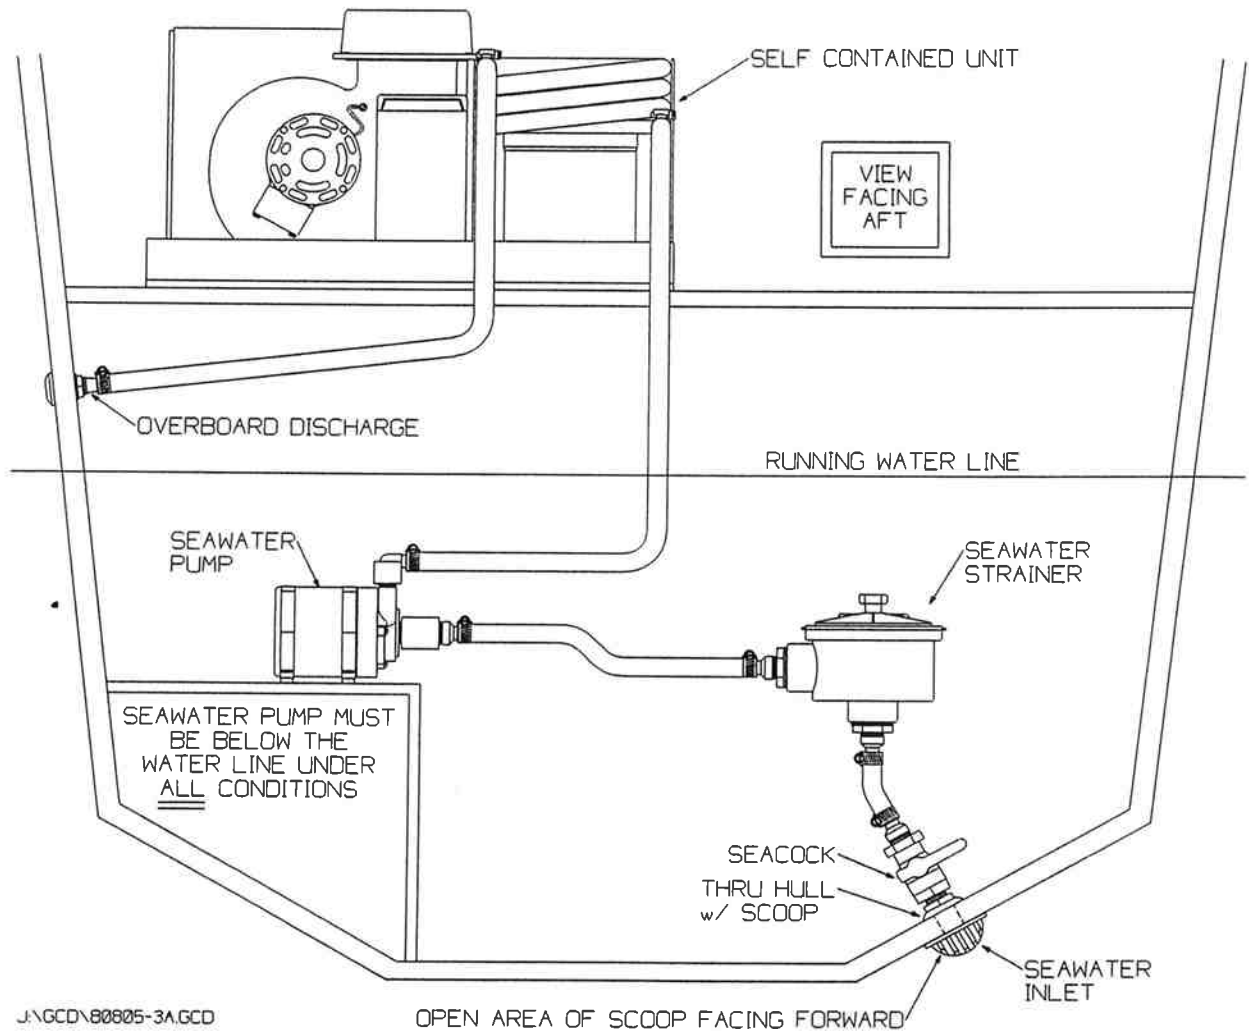

Figure 6 Typical Seawater Plumbing Circuit
2. To make the system self purging there must be a steady uphill run from the seawater inlet to the seawater strainer through the pump up to the self contained unit condenser and then overboard (See Figure 6). This will allow any air that enters the seawater inlet to bleed off naturally through the seawater system.